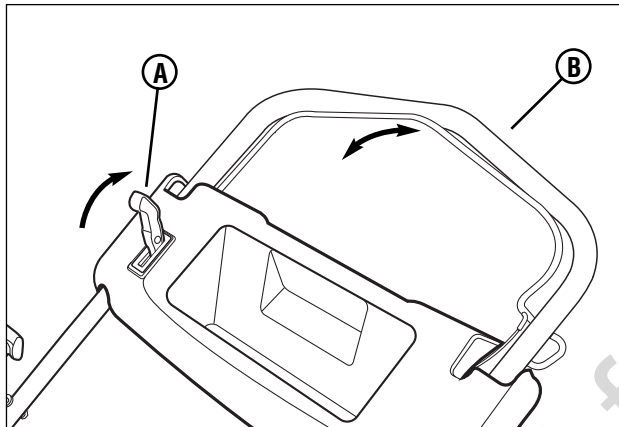

Figure 4: Drive handle
2. Pull the drive handle lock lever (**A**, **Figure 4**) fully back to the unlock position.